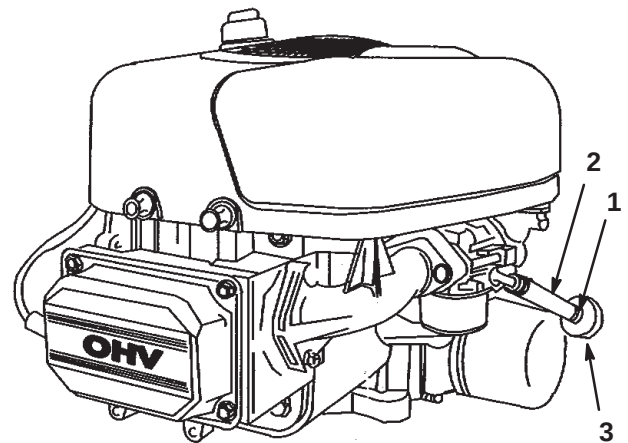

Figure 34
3. Loosen the hose clamp at the fuel filter and slide it up the fuel line away from the fuel filter (Fig. 34).
4. Pull the fuel line off of the fuel filter (Fig. 34).
6. Install the fuel line onto the fuel filter. Slide the hose clamp close to the fuel filter to secure the fuel line (Fig. 34).
3. Squeeze the ends of the hose clamps together and slide them away from the filter (Fig. 34).
5. Install a new filter and move the hose clamps close to the filter (Fig. 34).